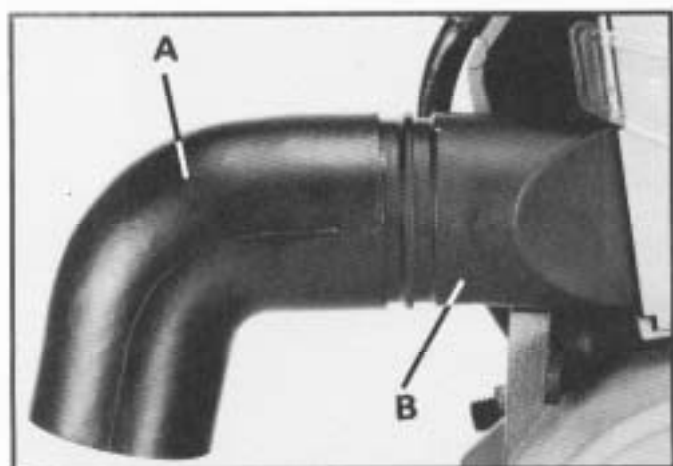
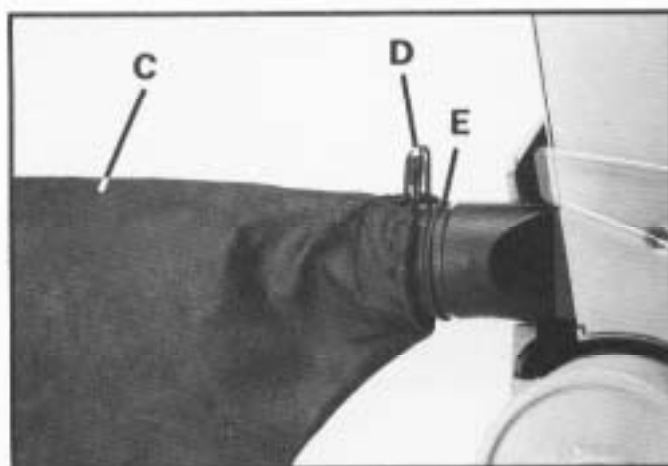

Fig. 10
Fig. 10A
A dust chute (A) Fig. 10, is supplied with your miter box to deflect sawdust down at the rear of the saw. To assemble the dust chute (A), simply press it on the spout (B) at the rear of the guard, as shown.
Available as an accessory for your miter box is the Catalog No. 34-084 Dust Bag, shown at (C) Fig. 10A. To assemble the accessory dust bag, remove dust chute (A) Fig. 10, and assemble dust bag (C) Fig. 10A, to the spout, as shown,
The miter box can be connected directly to the accessory 49-255 UL listed, 28-gallon all purpose vacuum cleaner by removing the dust chute (A) Fig. 10, and using the accessory 49-220 (2-1/2" x 1-1/2") adapter and the 49-228 (2-1/2" x 2-1/2") coupling. The hose from the 49-255 vacuum cleaner can then be connected to the coupling.